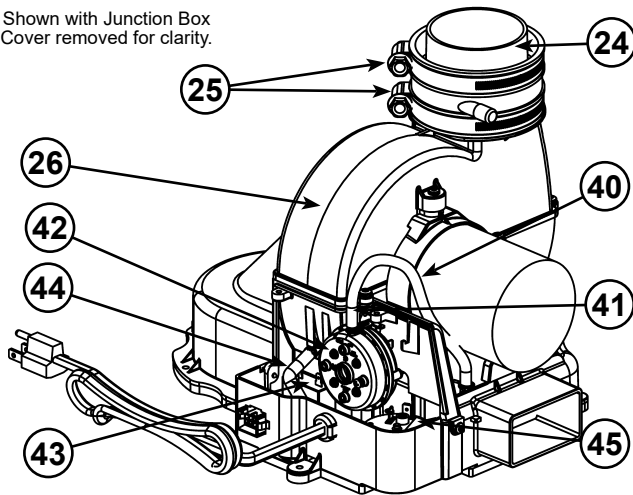

Figure 4.
| 1 Termination Elbow with Vent Screen | 22 Hot-Water Outlet Nipple/Anode | 42 Intake Air Pressure Switch (NC) (inside box) (see Figure 4) |
| 2 *Vent Pipe | 23 *Inlet Water Shut-off Valve | 43 Capacitor (see Figure 4) |
| 3 *Vent Pipe Elbow (long radius) | 24 ***Rubber Coupling (see Figure 4) | 44 Air Tubing (Exhaust) (see Figure 4) |
| 4 *Union (Di-electric water connection) | 25 Gear Clamp (see Figure 4) | 45 Exhaust Air Pressure Switch (NO) (inside box) (see Figure 4) |
| 5 Cold-Water Inlet Nipple/Diptube | 26 **Blower with Power Cord (see Figure 4) | |
| 19 *Gas Supply* | 40 Air Tubing (Intake) (see Figure 4) | |
| 20 Anode (under cap) | 41 Blower High Limit Switch (see Figure 4) | |
This device is located on the blower (see Figure 4, item 41) and limits the maximum temperature of the blower. If the blower temperature rises above the temperature setting, the switch opens causing the heater to shut down.
The blower/heater is equipped with two air pressure switches located in the junction box (see Figure 4, item 42 and item 45). These devices are connected in series and monitor the air pressure produced by the blower. In the event that the exhaust venting becomes blocked or sufficiently restricted, the normally open (NO) air pressure switch will shut down the heater. In the event that the intake pipe becomes sufficiently blocked or restricted, the normally closed (NC) air pressure switch will shut down the heater.